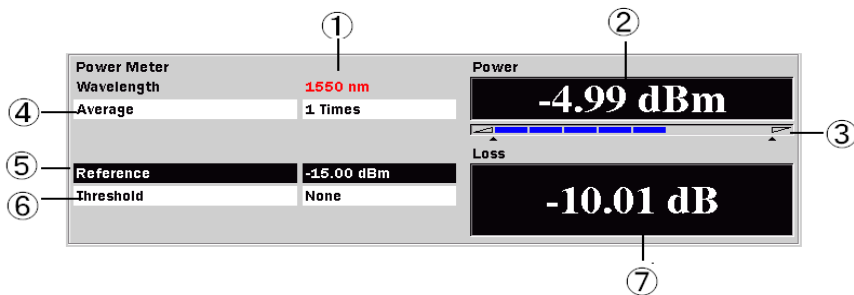

Figure 8-5: Power Meter Area
In addition, when the reference value (as set in the Reference Field, item 5 in Figure 8-5 on page 8-4) is set to “None”, the background color of the Absolute Power reading changes according to the Pass/Fail status established by the value in the Threshold field (see item 6 in Figure 8-5 on page 8-4). Readings that “pass” have a black background, while readings that “fail” have a red background.
Displays the number of times that the current test data is averaged before the Power reading (item 2 in Figure 8-5 on page 8-4) is refreshed. The higher the number of averages, the more stable the Power reading.
Displays the currently set reference value which is used to calculate the Loss reading (item 5 in Figure 8-5 on page 8-4). Reference values can be entered for each of the power meter's calibrated wavelengths.
The Loss reading (item 7 in Figure 8-5 on page 8-4) displays the optical power loss value.
In addition, when a reference value other than "None", is set in the Reference Field (item 5 in Figure 8-5 on page 8-4), the background color of the Loss reading changes according to the Pass/Fail status established by the value in the Threshold field (see item 6 in Figure 8-5 on page 8-4). Readings that "pass" have a black background, while readings that "fail" have a red background.